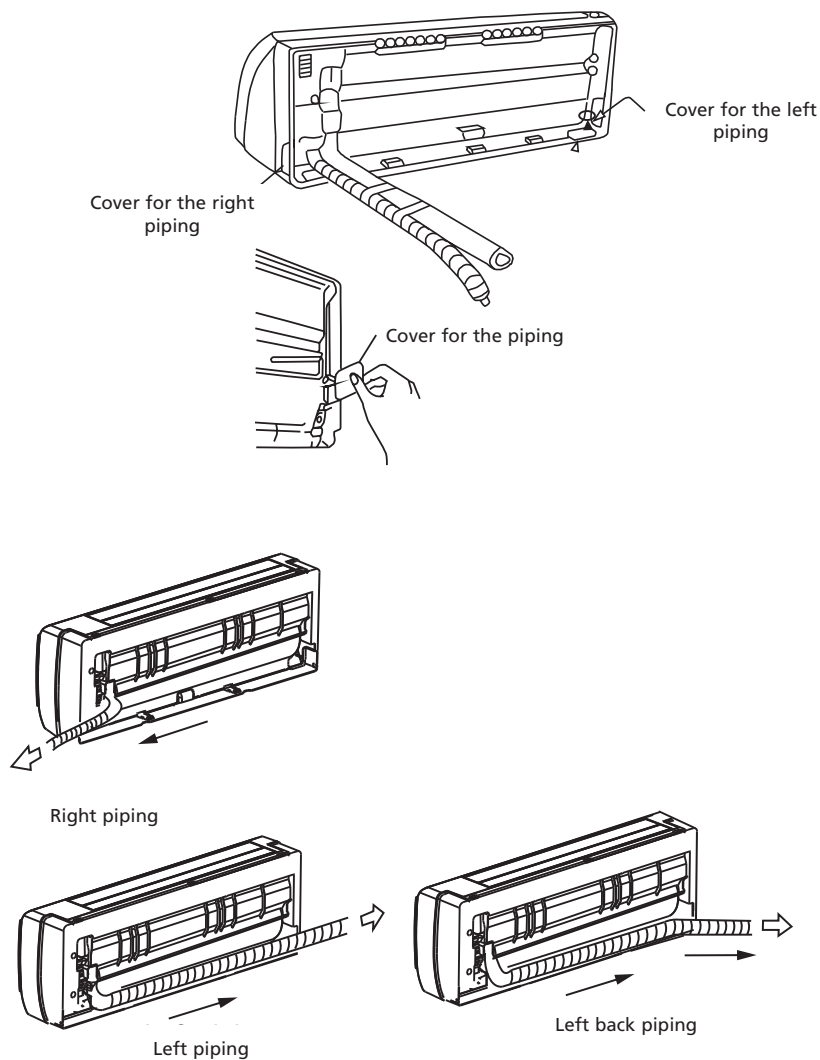

Figure 7
- The piping can be connected exiting from the left rear or right rear of the interior unit. Remove the left or right breakout plate. See figure 7.
- The piping can be connected exiting from the left rear or right rear. See figure 7.